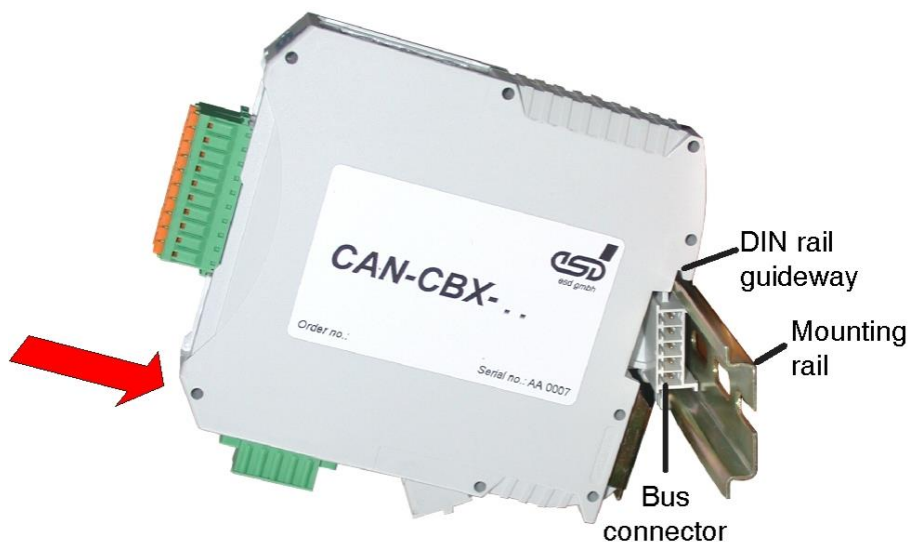

Figure 48: Mounting CAN-CBX modules
3. Now swivel the CAN-CBX module onto the mounting rail by moving the module downwards according to the direction of the arrow in Figure 48. The housing is mechanically guided by the guide bar of the bus connector.